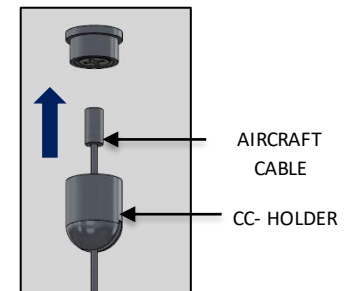

FIG. 9 - AIRCRAFT CABLE INSTALLATION
6. Locate the AIRCRAFT CABLE mounted from the Mounting kit. Feed the AIRCRAFT CABLES through the CC-HOLDER. Once the AIRCRAFT CABLE is fed thru the CC-HOLDER, secure to the CC-BASE (mounted) at the non-powered mounting locations as shown in FIG. 9.